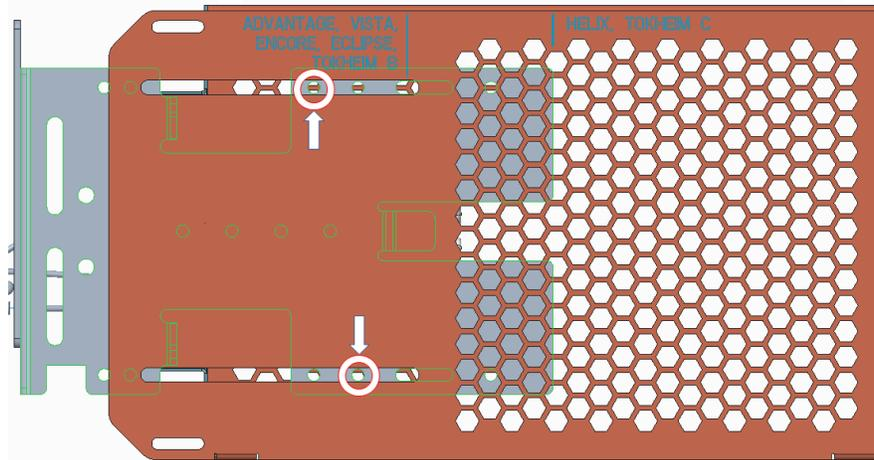

Figure 196
- 10) Insert and tighten two of the thread forming 006-8626667 screws at the locations shown in Figure 196 to secure the wire guard (497-0522796) to the NCR heater assembly.